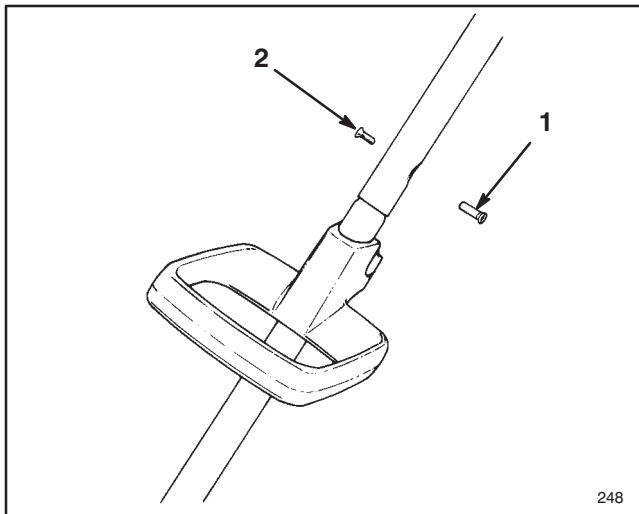

Figure 3
4. Secure the upper and lower tubes by inserting the countersunk nut and the slotted screw (supplied in loose parts bag) through the aligned holes in the tubing (Fig. 3).
3. Slide the lower tube into the upper tube until the screw holes line up (Fig. 3).